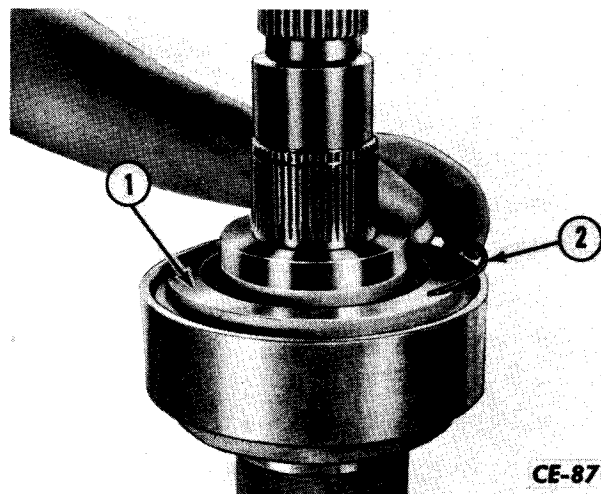

Figure 4-115
Invert the shaft assembly. Depress the clutch piston (1, Fig. 4-115) into the piston housing. Remove the special snap ring groove filler. Install snap ring (2).